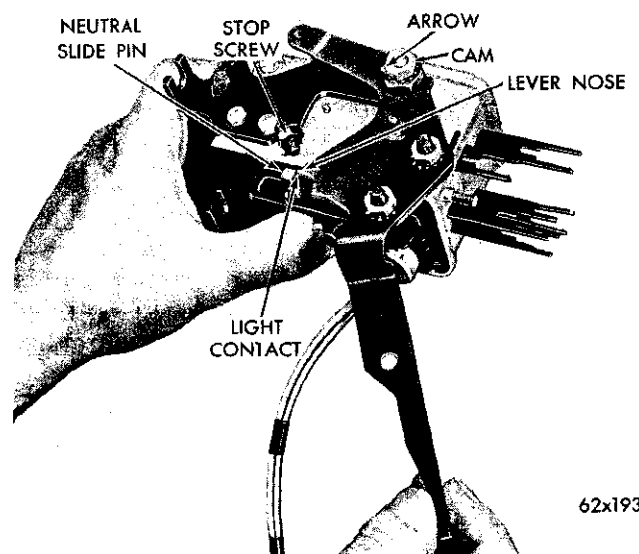
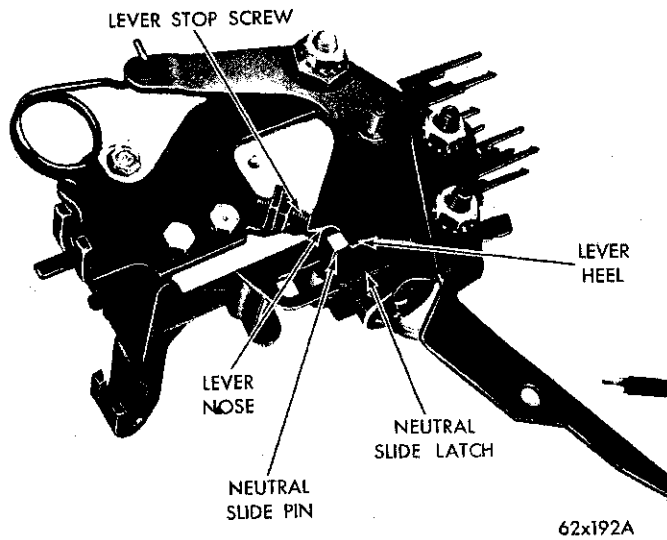

Fig. 14—Adjusting Lever Nose Contact at Neutral Slide Pin
Fig. 15—Adjusting Lever Heel to Neutral Slide Pin Clearance
(1) Remove the overcenter spring and back off the lever stop screw (Fig. 14). Make sure no binding exists in the neutral slide, neutral slide pin and bushing, cam pivot, and that they are adequately lubricated.
(2) Hold the neutral slide in against the rocker bar with about 5 to 10 pound load.
(3) Loosen the lock nut and rotate the cam so the lever nose just touches the neutral slide pin as it passes over the pin when moving the parking lock lever from the OFF to ON position. Only light contact should occur so the lever does not hang up on the pin. Hold the cam in this position and tighten the lock nut to 95 inch-pounds torque. Install overcenter spring.
(4) Adjust the lever stop screw to obtain .010 inch clearance between the neutral slide pin and the lever heel (Fig. 15). Tighten the lever stop screw lock nut securely.